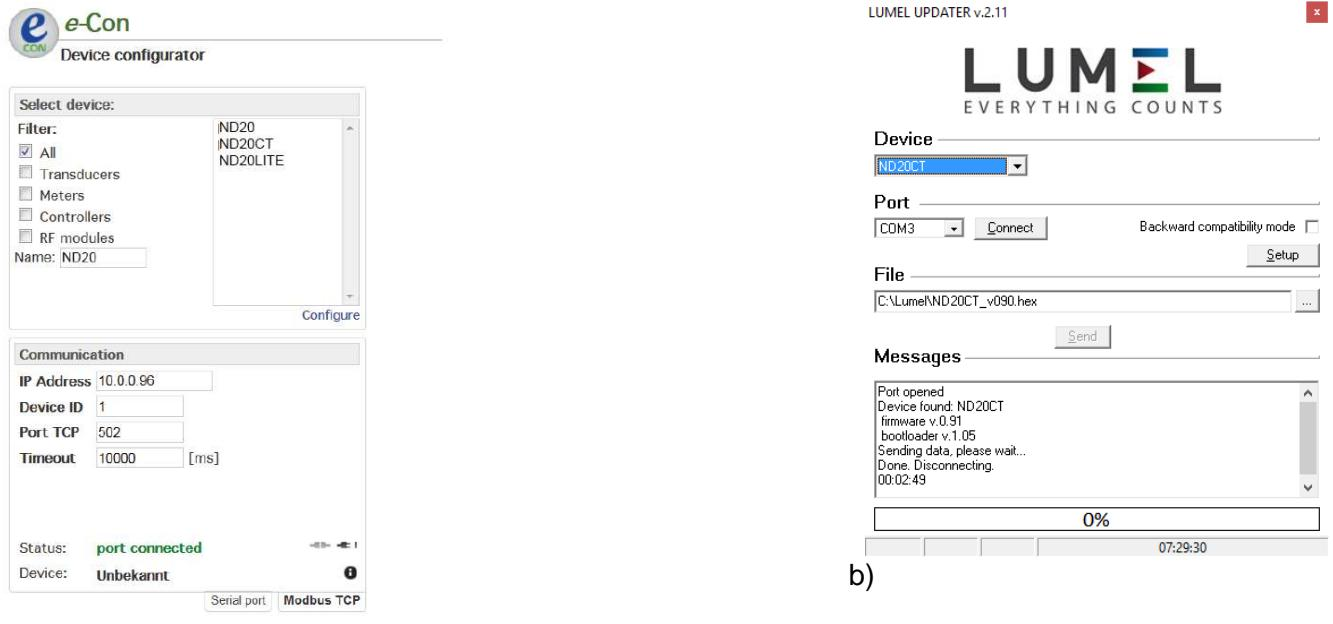

Fig.11 View of program window: a) eCon, b) firmware upgrade
After starting eCon the serial port, baud rate, mode and the meter address should be set in the settings. Next, select the ND20CT meter from the *Devices* menu and click on the *Readout* icon to read all the parameters set (needed for their later restoration). After selecting the option *Update device firmware* from the *Update* menu, the *Lumel Updater* window (LU) will open - Fig. 11 b. Press *Connect*. *Messages* information window contains info about the progress of the upgrade process. When the port is properly opened the display shows: *Port opened*. There are two ways to enter the upgrade mode: remotely through the LU (based on the settings in eCon - address, mode, baud rate, COM port) and by turning the meter power on when the push-button is pressed. The display will show "boot" with bootloader version, and LU program will show the message *Device found* and the name and program version of the connected device. Press the ... button and select the meter update file. When the file is properly opened *File opened* message is displayed. Press the **Send** button. After successful upgrade the meter switches to normal operation, the information window shows *Done* and the upgrade duration. After closing the LU window, go to *Restore factory settings* parameter group, select the option and press the *Apply* push-button. Then press the *Record* icon to save the parameters set at the beginning. The current software version can also be checked by reading the greeting messages of the meter after powering up.